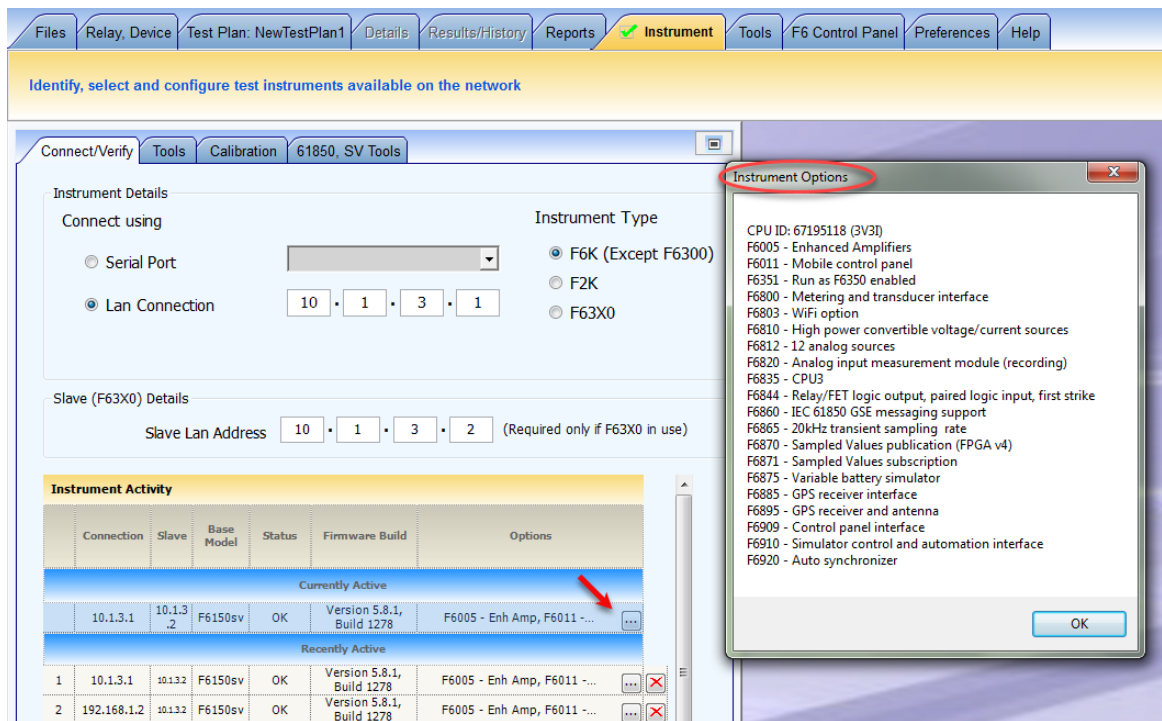

Figure 9. F6150 CPU3 instrument options after update
33) Click the box with the ellipsis (three dots) to view the instrument options (see Figure 9)